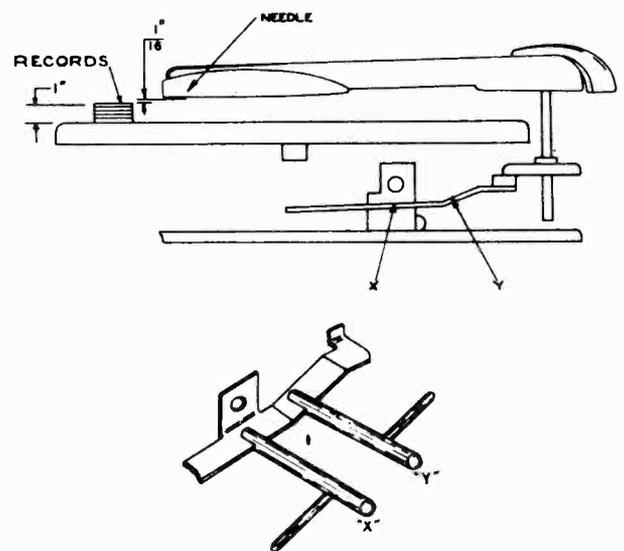

Fig. 4
The vertical movement of the pickup arm is controlled by the angle of the pickup arm raising lever (37 and Fig. 4). The needle should approach the top record of a full 1" stack of records on the turntable with approximately  $\frac{1}{16}$ " clearance.
4. If the needle does not clear the top record or if it raises too high, adjust by holding the pickup arm raising lever (37) at point X and bending at Y as indicated in Fig. 4.